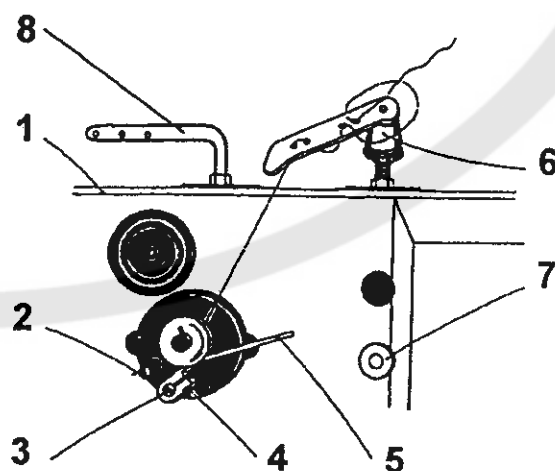
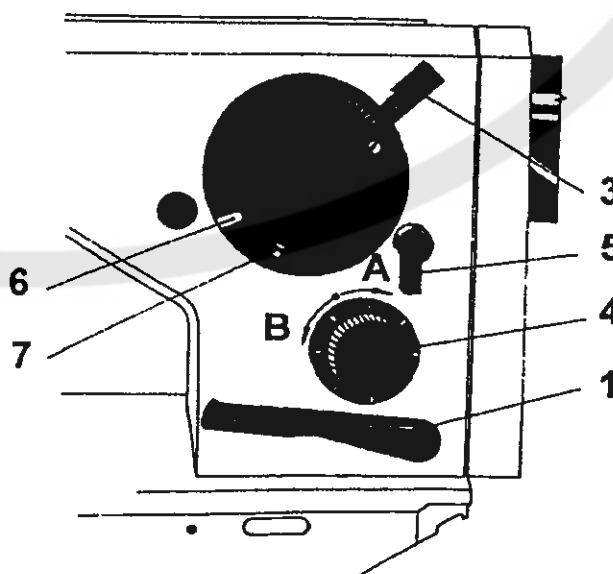
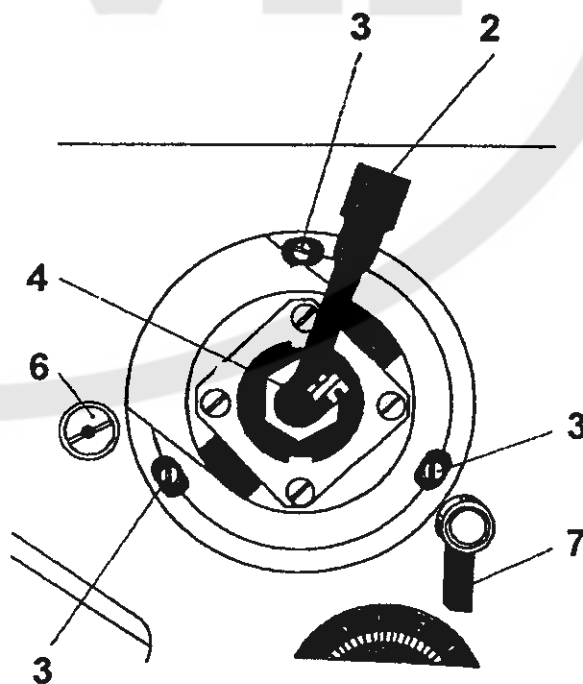

Fig. 6
Fig. 7
Fig. 11
9. To wind the hook bobbin (Fig. 6)
1. Stitch length adjustment (Fig. 7)
2. To adjust the zigzag stitch width (Fig. 7)
Adjust the zigzag stitch to the zero width and turn the hand wheel until the needle bar with the needle reaches its bottom position. In case of transverse deviation from the central needle position screw out the four attachment screws, remove the upper cover (1, Fig. 6), take the plug (7, Fig. 6) out of the machine arm, loosen the screw (29) located under the upper cover of the machine arm, insert a screwdriver into the hole created by the plug removal, adjust the angular position of the eccentric pin (32) so as to set the needle transversely to the slot centre, retighten the screw (29), insert the plug into its hole, and mount the upper cover. Check the needle punch position at the maximum stitch width and be sure that there is a play between the needle and the slot side in each lateral position of the needle. With zigzag stitch width adjusted at zero, the needle bar with the needle should react with no lateral movement to the hand wheel rotation. If it does react, the basic zero position of the zigzag stitch drive mechanism should be adjusted by an experienced sewing machine mechanic since such adjustment is rather extensive.
19. To adjust the control force required for stepless adjustment of the zigzag stitch width (Figs. 7, 11; Tabs. 6, 7)
For the stepless tilting of the zigzag stitch bracket, the inlay (4, Tab. 6) of the body of the zigzag stitch mechanism contains the braking roller (5) with the spring (6) and with the adjustment screw (7). Turning the screw to the right increases the pressure exerted on the roller and, consequently, the force required to adjust the stitch width. A mechanism actuated by the lever (7, Fig. 11) serving to fix the adjusted stitch width must be torn to the left prior to proceeding to the stitch width adjustment which is carried out by the lever (2) whose extreme left position, defined by a stop, produces the zero zigzag stitch width that can be increased up to 10 mm by displacing the lever to the right. The number marking on the cover (6, Fig. 7) shows the approximative stitch width value at each lever position. To adjust the control force, first take the complete zigzag stitch mechanism out of the machine arm column. For this purpose, screw out the two screws (7) from the body of the mechanism, remove the cover (6), screw out the three attachment screws (3, Fig. 11) from the body of the zigzag stitch mechanism, then screw out the securing screw (37, Tab. 7) on the pin (40), remove the pin from the guiding (43), loosen the fixing lever (51) and take the pin (42) out of engagement, thus releasing the body of the zigzag stitch mechanism that can be then taken out of the machine arm. For the assembly, proceed inversely.
20. To adjust the tooth play of the zigzag transmission mechanism (Figs. 6, 11; Tabs. 1, 11, 7)
The tooth play of the zigzag stitch transmission mechanism is actuated by the eccentric pin (6, Fig. 11). To adjust the tooth play, first screw out the four attachment screws (2, Tab. 1), remove the upper cover (1, Fig. 6), and loosen the screw (4, Tab. 7) located in the lug of the machine arm. By turning then the eccentric pin (6, Fig. 11) adjust the tooth play of the zigzag transmission mechanism, i. e., between the complete cam (9, Tab. 7) and the gear wheel (13, Tab. 11) mounted on the upper shaft (1, Tab. 11), then lock the adjusted position by thoroughly tightening the screw (4, Tab. 7).